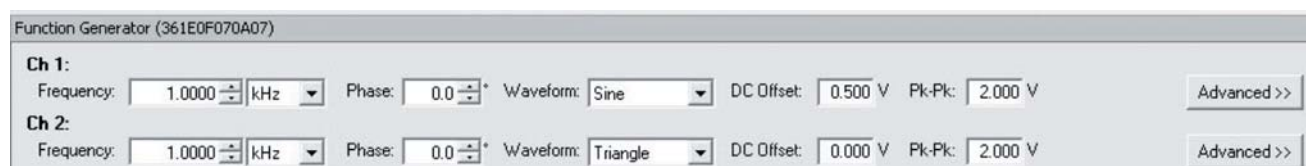

Fig. 6—Function generator screen
3. Change Ch 1 to a d-c offset of 0.5 volt. Figure 6 shows the result.